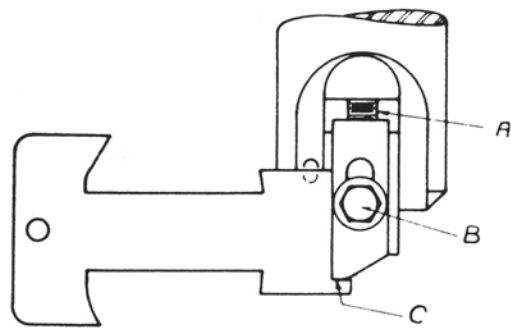

Fig. 3
2. The upper cutter is in the proper position when the gauge is placed with hook against C and top of gauge is flush with line \ominus . Refer to Fig. 3. To adjust, remove bolt B, move Allen set screw A up or down until cutter is in proper position, then replace bolt B drawing up tight. Be sure cutter is against set screw A.